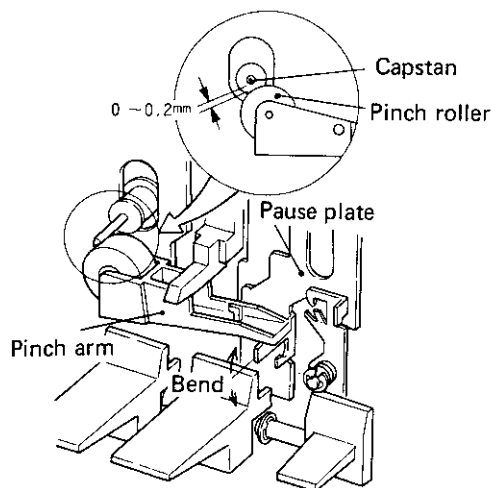

Fig. 22
1. With the unit in the PLAY position, slowly press down on the PAUSE lever, and then bend the pause plate so that the pinch roller becomes separated from the capstan by 1 to 2mm. (Fig. 22)